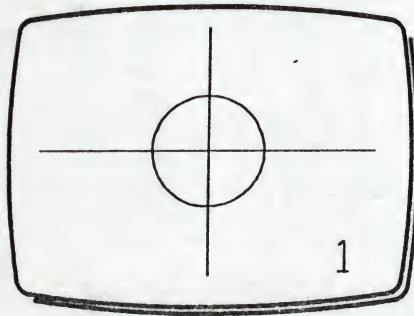

Fig 1
- 2 Draw a figure similiar to (1) in Fig 1.